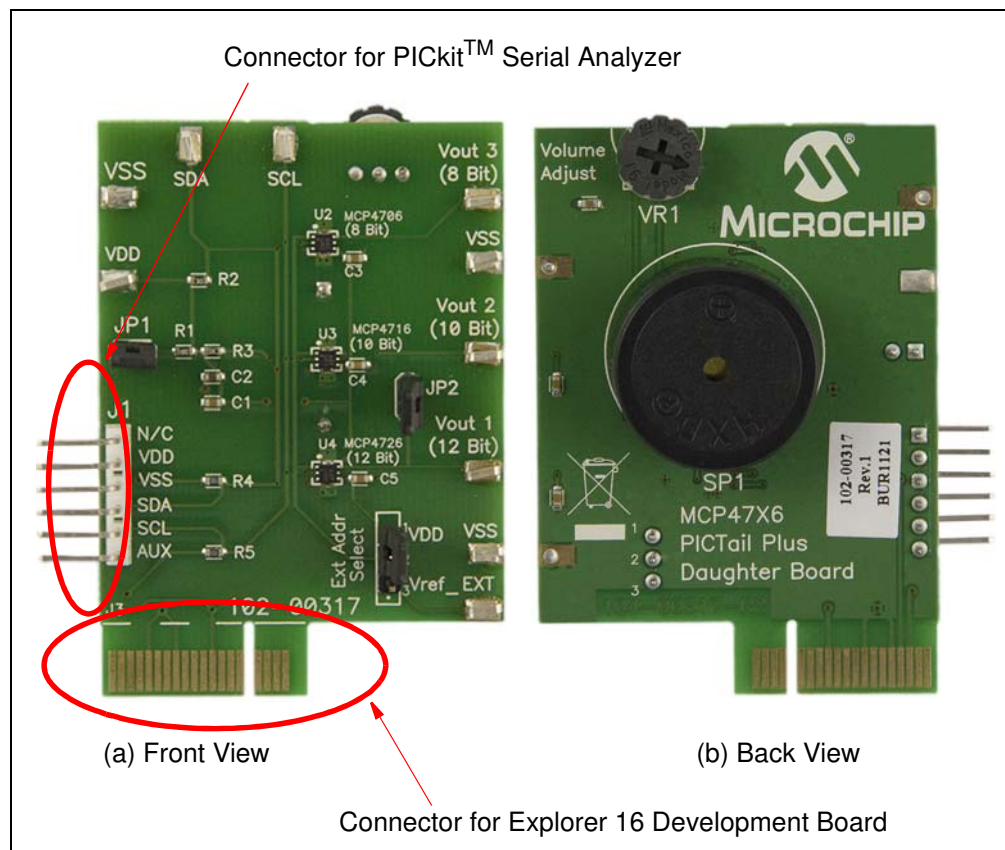

FIGURE 1-1: Front and Back Views of the MCP47X6 PICtail™ Plus Daughter Board.
- Replaced the front and back views of the board with updated photos for Figure 1-1: “Front and Back Views of the MCP47X6 PICtail™ Plus Daughter Board.”